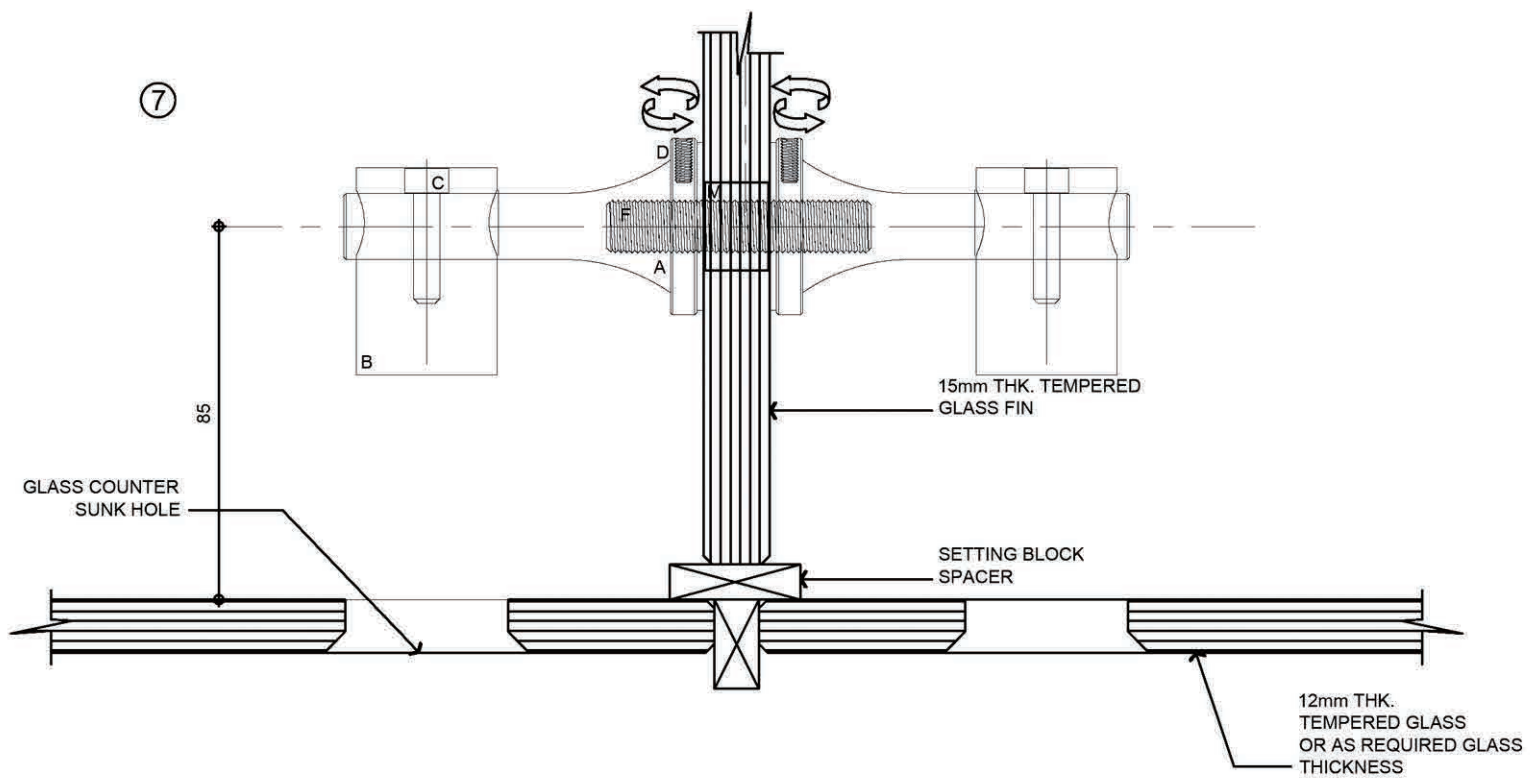

FIG. 3
- ⑦ THEN TIGHTEN THE SOCKET SET SCREW (D) WHEN YOU ACHIVED THE PROPER ALIGNMENT OF THE MECHANISM TO GLASSWALL COUNTERSUNK HOLE.(SEE FIG. 3)